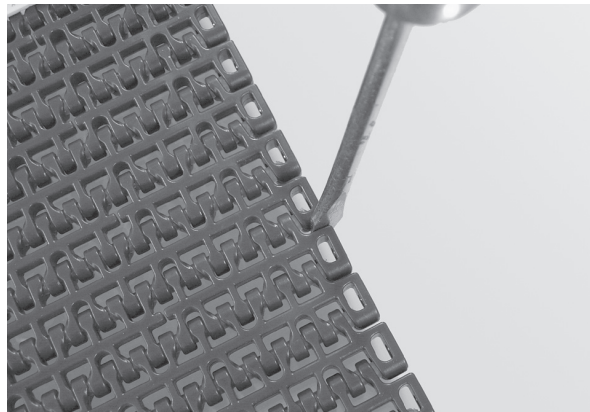

Figure 52
1. Place the edge of a flat head screwdriver between the two belt links and turn clockwise (**Figure 52**).